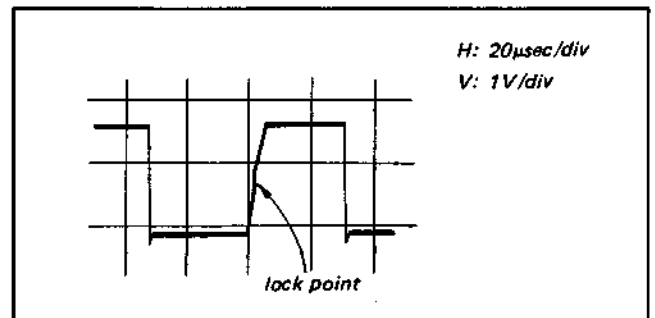

Fig. 4-4-19. AFC adjustment
- (3) Adjust RV22 so that the lock point is the center of the trapezoidal waveform. (See Fig. 4-4-19.)